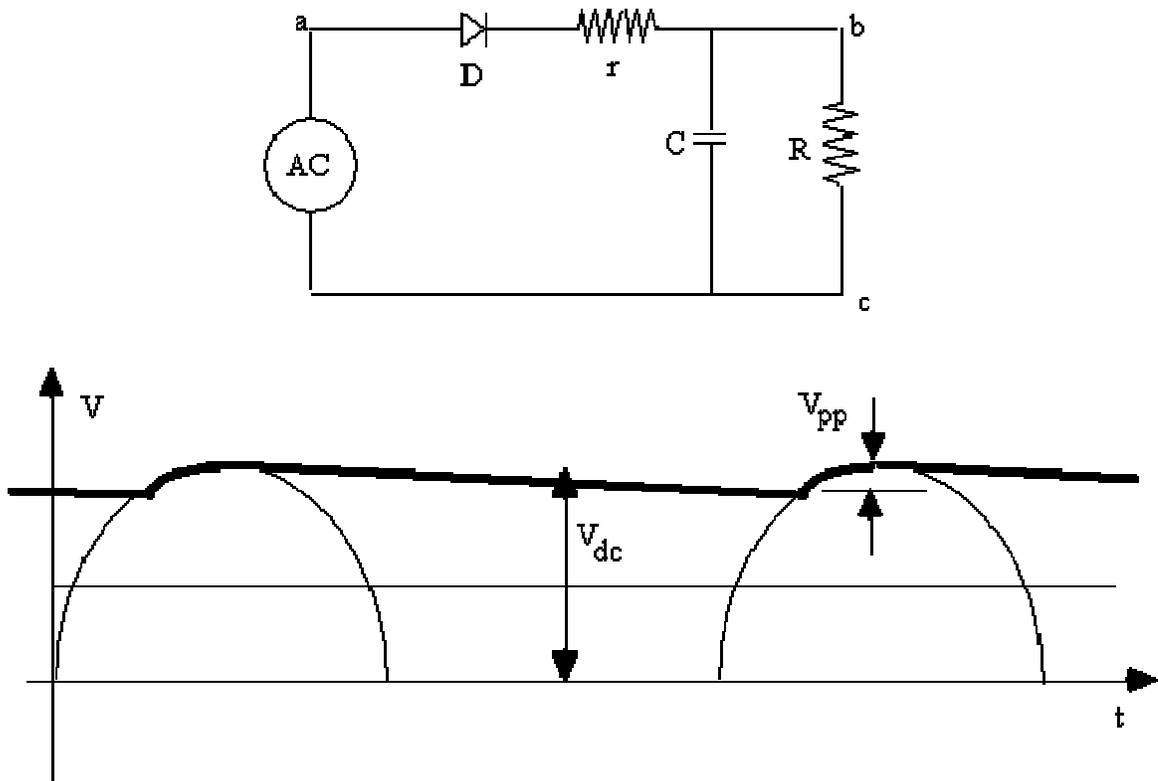

Figure 3
The waveform of Fig.(2) can not be used as a good DC power supply in most applications due to its significant AC component. To make the DC voltage more like the constant voltage of a battery, it is necessary to filter out the AC component. The simplest filter is a capacitor. As shown in Figure 3, a capacitor C is connected in parallel with the load resistor to absorb the fluctuation of the voltage. When the point a is at high voltage, not only the load resistor draws current, the capacitor draws current as well. The capacitor is charged to the peak voltage of the sinusoidal wave form. When the voltage at the point a start to decrease, the capacitor start to discharge through the load resistor. (Why not through the diode?) Namely, the capacitor functions temporarily as a "battery" until the sinusoidal AC voltage becomes higher than the voltage across the capacitor again. The charging and discharging processes repeat themselves every period so that the voltage across the load resistor is kept between certain minimum voltage V_{min} and the maximum voltage V_{max} . (See the waveform in Fig.3)The fluctuation of the voltage is called the ripple voltage, and it is defined as